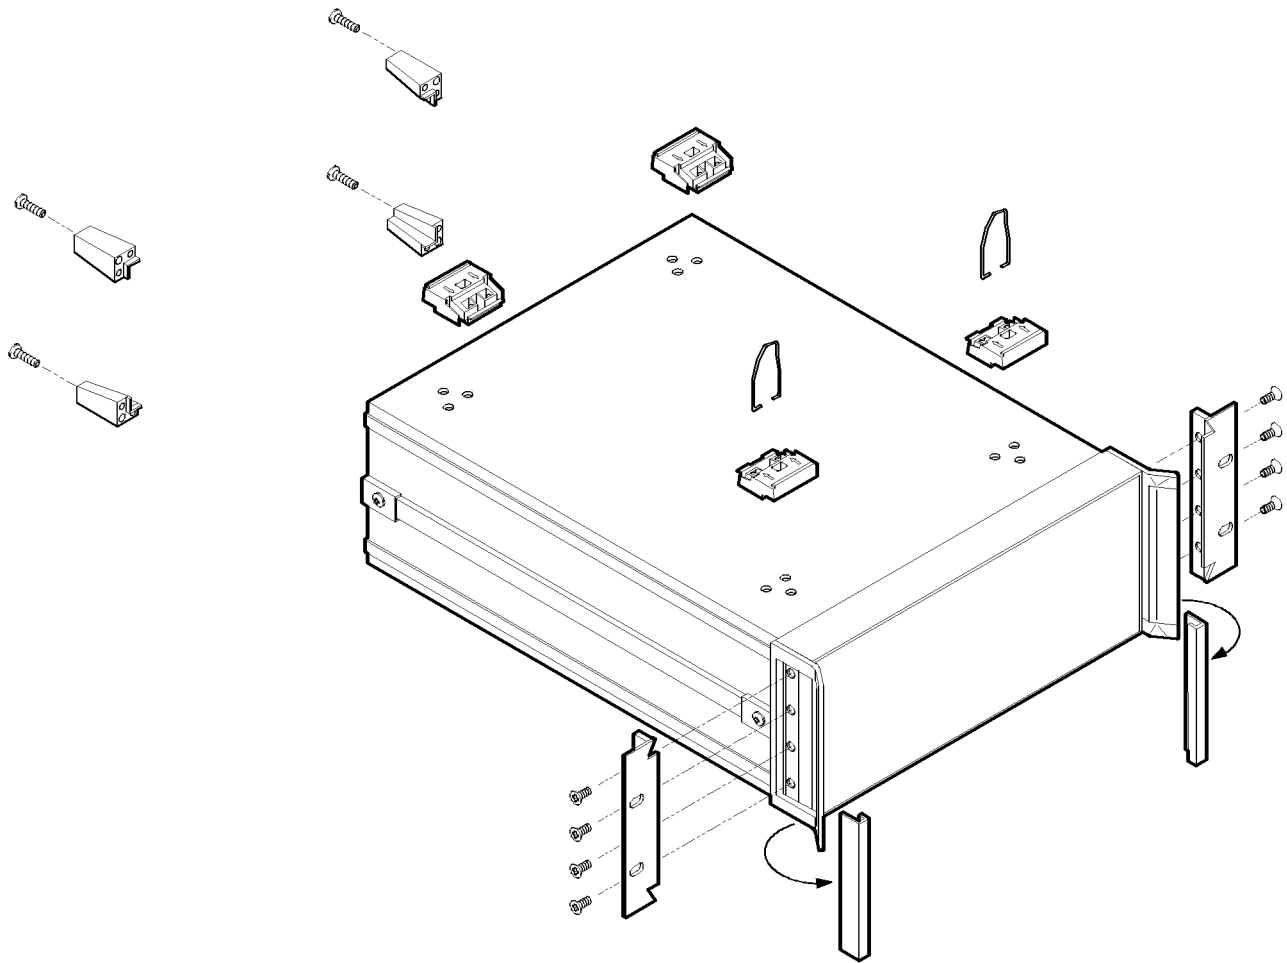

Figure 3-6. Rack Mount Flanges for Synthesizers with Handles Attached
1. Refer to Figure 3-6. Remove handle trim strips.